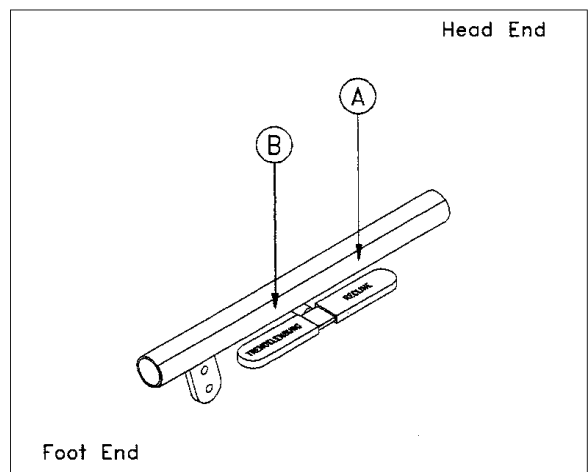

FIGURE 3-7
To adjust the unit anywhere from the chair position to the stretcher position, grasp the RECLINE handle, (A), adjust the unit to the desired position, and release the handle (See Figure 3-7).
Grasp the TRENDELENBURG handle (B), adjust the unit into Trendelenburg, and release the handle (See Figure 3-7).